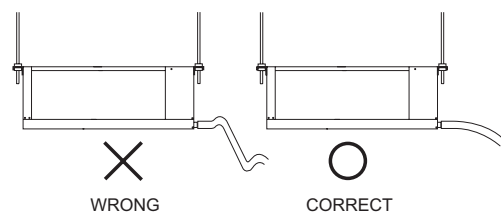

Fig. 10
(1) Installing
- Route the pipes so as to ensure that drainage can occur with no problems. (Fig. 10)